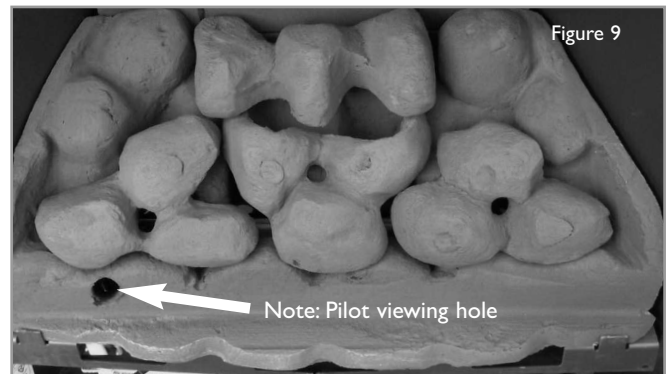

Figure 9
6. With pieces 'A' to 'D' correctly in position, the fuel bed should appear as shown in figure 9.